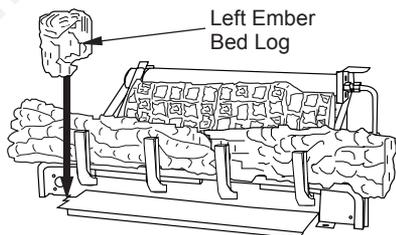

Figure 41 - Installing Left Ember Bed Log
4. Place left ember bed log (18" D-073, 24" & 30" D-048) as shown in Figure 41. The log has groove on one side that sets on the ember bed pan. The back side of this log needs to rest against the front of the base assembly. Make sure the flame from the ember pan does not touch the ember bed log.